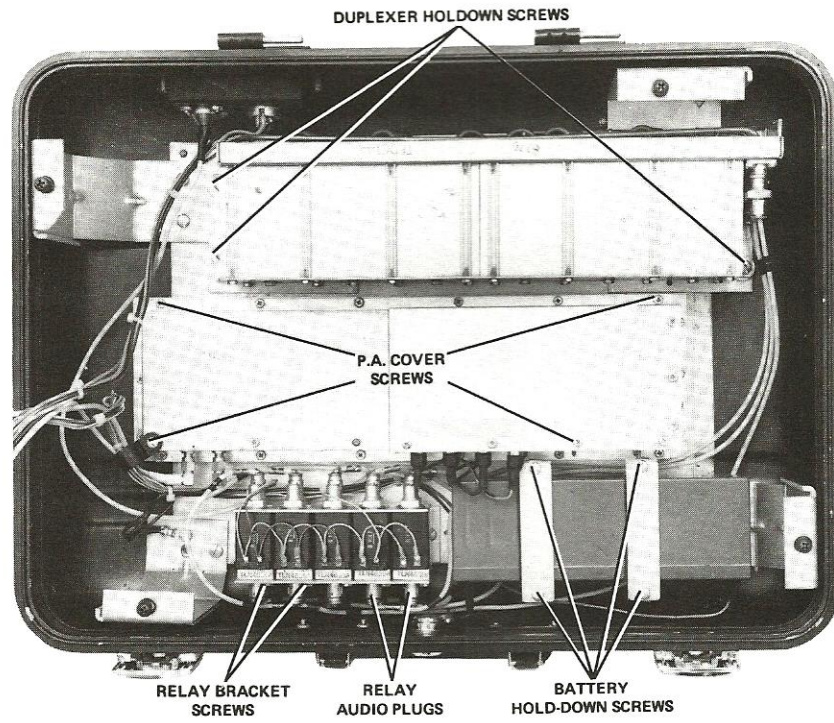
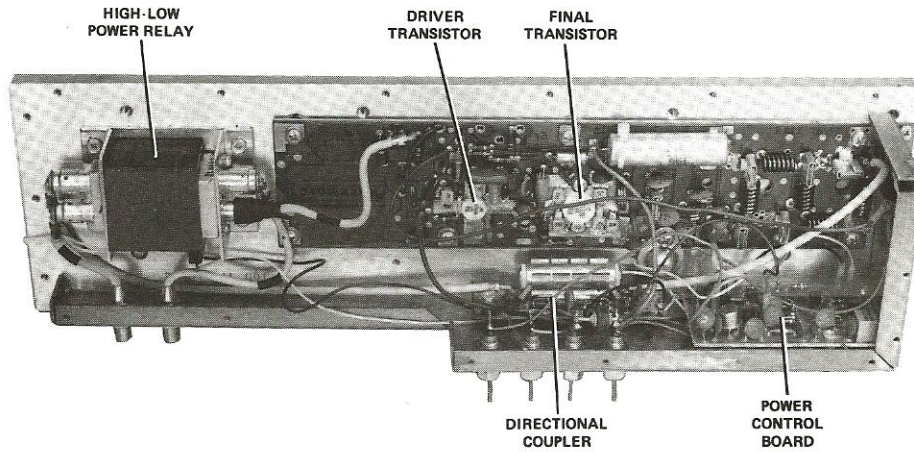

Figure 4-6.
Figure 4-7. Vhf Power Amplifier
e. **Power Amplifier Removal (Figure 4-6)**
(1) Remove the power amplifier by first removing six slotted round-head screws.
(2) Slide back the protective covering (shrink tubing) and unsolder four control wires to the power amplifier.
(3) Disconnect the two "sma" connectors by unscrewing them.
(4) For further disassembly, remove the cover by removing 17 hex-head screws. See Figures 4-7 and 4-8.
- Repeater Level: This adjustment sets the repeat mode deviation. Care should be taken not to key the unit into the signal generator during this measurement. Disconnect the rf cable from the receiver port of the duplexer (Figure 4-6). Connect the signal generator to that cable and turn the generator up to completely quiet the receiver. Modulate the generator with a one kHz tone at 3 kHz deviation. Monitor the output of the transmitter with a monitor receiver. Move the PL switch to the Off position and the Rptr switch to the On position. With the unit keyed, set R106 for 3 kHz deviation of the transmitter if no PL is used; set the deviation for 4 kHz if PL is used.